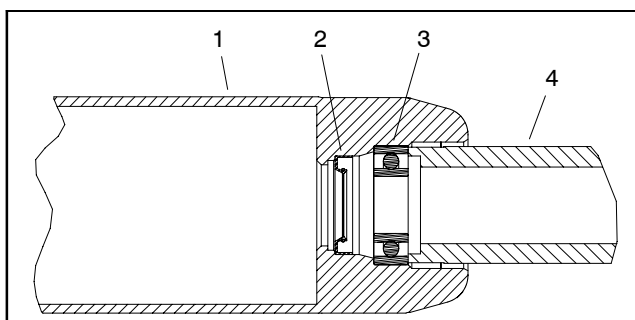

Figure 21
A. Position a new bearing into one end of roller tube. Use bearing/outer seal tool (see Special Tools) with a soft face hammer to fully seat bearing against roller shoulder (Fig. 21). After bearing installation, make sure that it rotates freely with no binding.